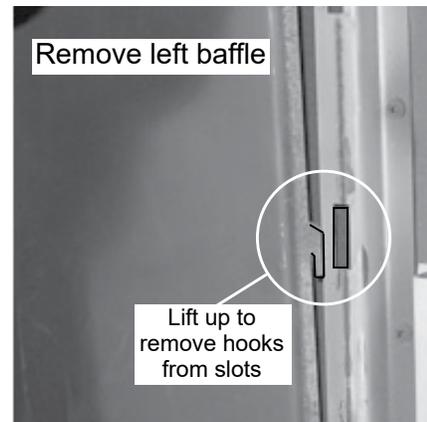
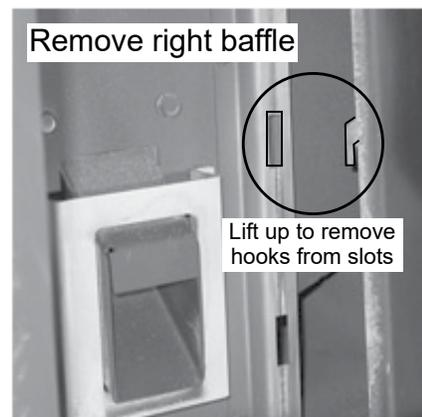

Figure 26.3
Figure 26.4
3. Remove the left baffle and then the right baffle by pulling up and then towards you. The left and right baffles have similar hooks and slots (**Figures 26.3 and Figure 26.4**).